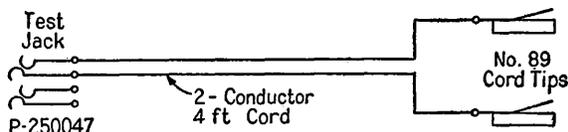

Figure 1.
- 2.4 Special Patching Cord per Figure 1, for testing restricted service trunks.